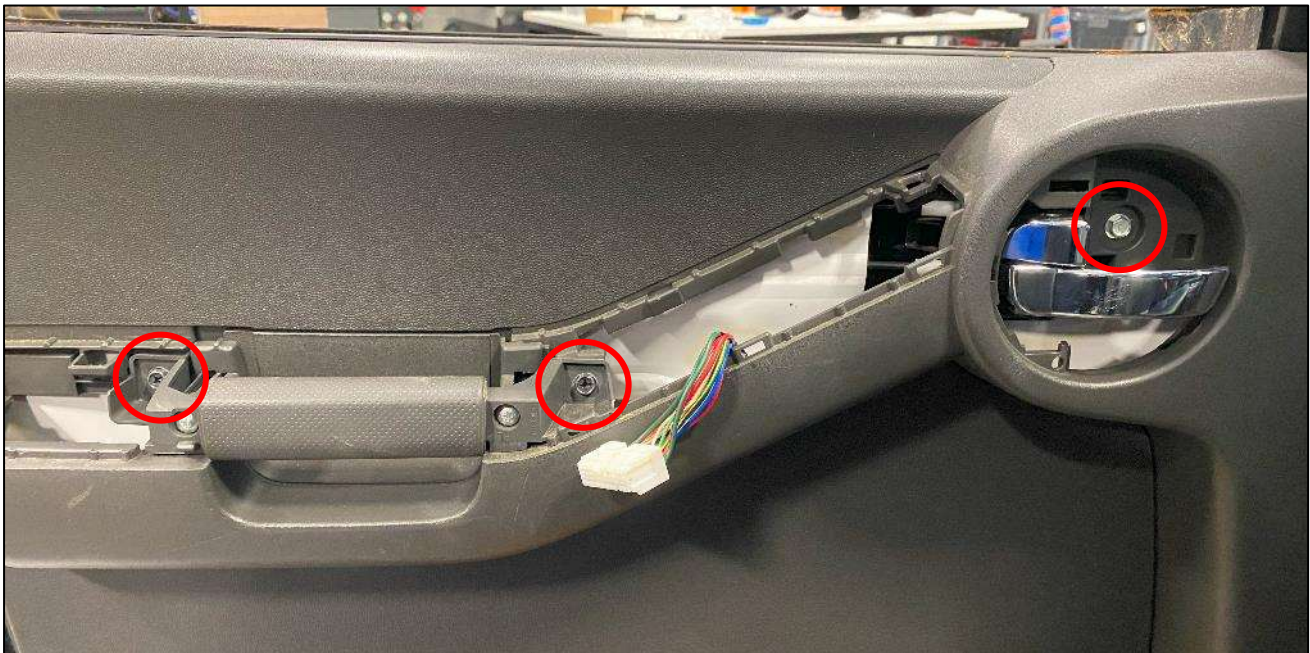

Figure 90
6. Remove the (3) three 10mm bolts securing the Door Panel to the Door. *Figure 90.*